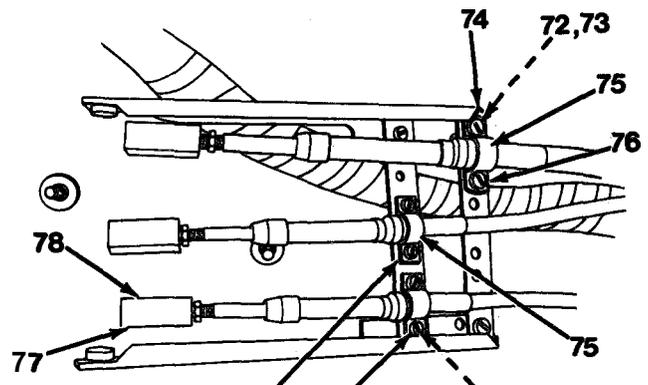

Figure 17-9
24. Remove four nuts (56) and washers (57).
25. Remove three nuts (58), capscrews (59) and washers (60).
26. Remove two capscrews (61), lockwasher (62), washer (63) and cover (64).
27. Remove four capscrews (65), lockwashers (66) and lay circuit breaker panel (67) against back cab wall.
28. Remove two capscrews (68), lockwasher (69) and washer (70).
29. Lift right-hand dash (71) and rotate 1/4 turn to allow access to shift control linkage.
30. Remove six nuts (72), lockwashers (73) and capscrews (74, Figure 17-9).
31. Remove three clamps (75) and shims (76).